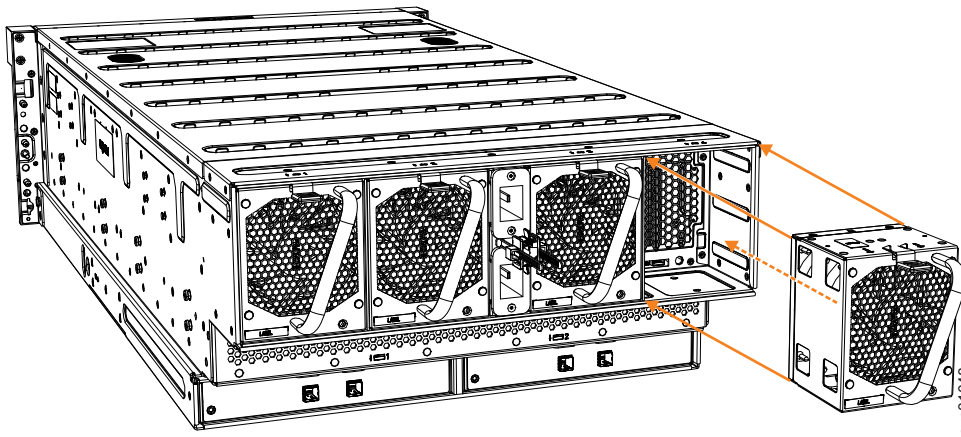

Figure 72. Replace fan module
2. Carefully insert the fan module into the chassis until it clicks in place, as shown in Figure 72.